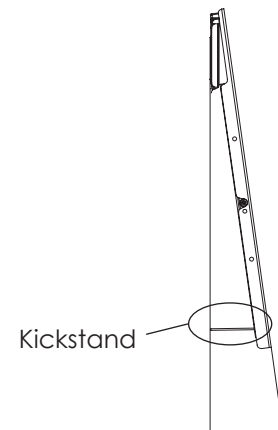

Figure 7
a. Installed in the bottom of the arms are Kickstands that allow the bottom of TV to be temporarily positioned away from the wall, hands free, to locate and plug-in cables and power cord (Figure 7).